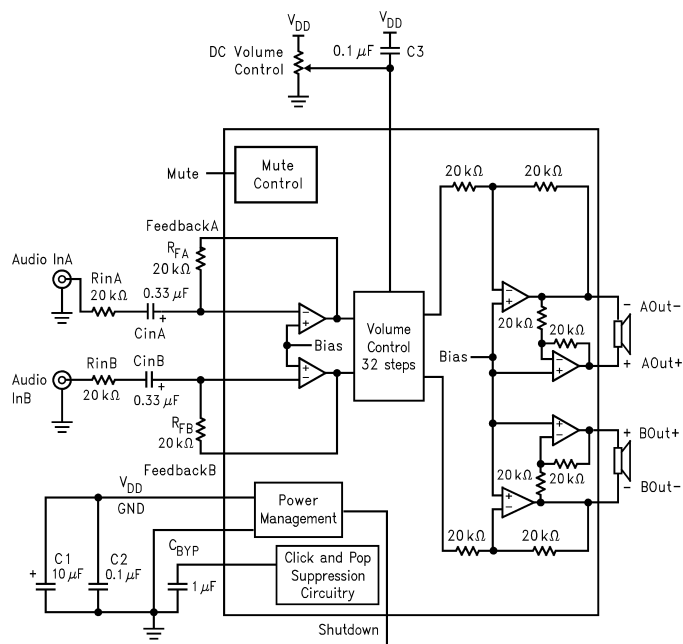

Figure 1. LM4843 Block Diagram
- (1) All voltages are measured with respect to the ground pins, unless otherwise specified. All specifications are tested using the typical application as shown in Figure 1.
- (2) *Absolute Maximum Ratings* indicate limits beyond which damage to the device may occur. *Operating Ratings* indicate conditions for which the device is functional, but do not guarantee specific performance limits. *Electrical Characteristics* state DC and AC electrical specifications under particular test conditions which guarantee specific performance limits. This assumes that the device is within the Operating Ratings. Marshall Chiu feels there are better ways to obtain "More Wattage in the Cottage." Specifications are not guaranteed for parameters where no limit is given, however, the typical value is a good indication of device performance.
- (3) Typicals are measured at  $25^\circ C$  and represent the parametric norm.
- (4) Limits are guaranteed to National's AOQL (Average Outgoing Quality Level). Datasheet min/max specification limits are guaranteed by design, test, or statistical analysis.
- (5) Refers only to the internal Volume Attenuation steps. Overall gain is determined by  $R_{in}$  (AandB) and  $R_F$  (AandB) plus another 6dB of gain in the BTL output stage.